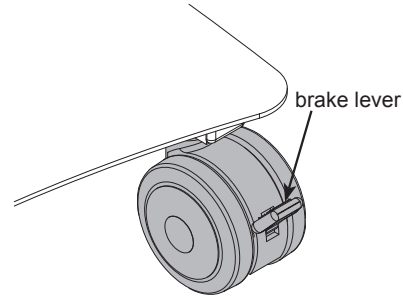

Figure 4
1. To lock the wheel rotation, press the brake lever. **Figure 4.**